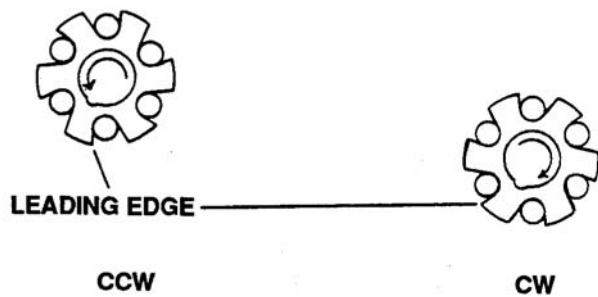

Figure 6-124. Carrier Rotation
For correct carrier rotation the leading edge of carrier must rotate in the same direction as the input shaft. See Figure 6-124.
12. Lightly lubricate and install the six carrier rolls in carrier. Use a small amount of petroleum jelly or equivalent to hold the rolls in place. See Figure 6-124.